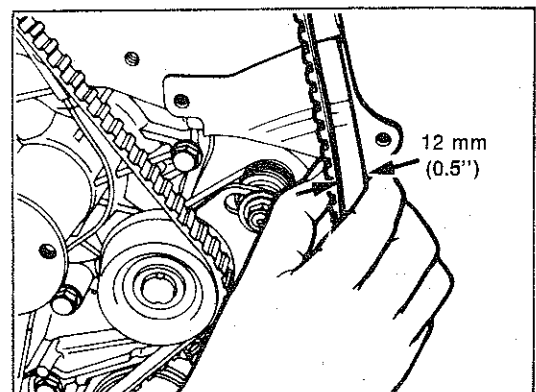

Fig. 55—Timing belt tension
(10) Check the belt tension between the camshaft and oil pump sprocket by pulling the belt out as shown in Fig. 55. The clearance between the belt and rear cover should be approximately 12 mm (0.5"). Readjust if necessary.
(11) Remove the temporarily installed crankshaft pulley.
(12) Install the front upper and lower belt cover.